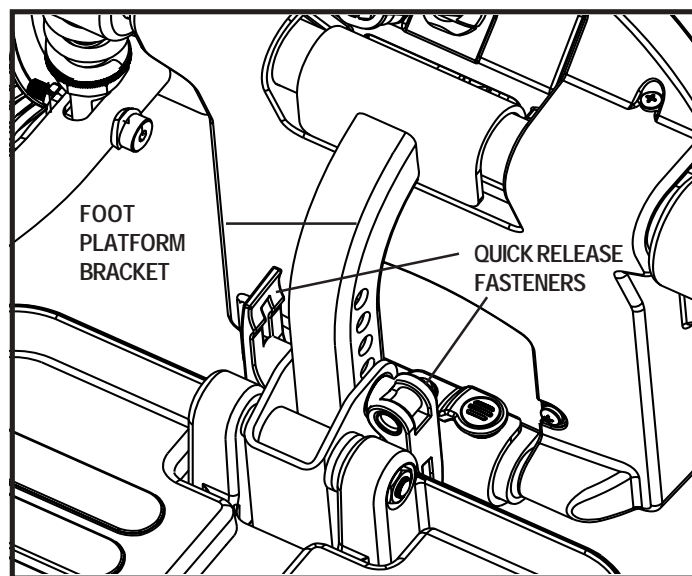

Figure 16. Foot Platform Adjustment
1. Remove the quick release fasteners from the foot platform bracket. See figure 16.